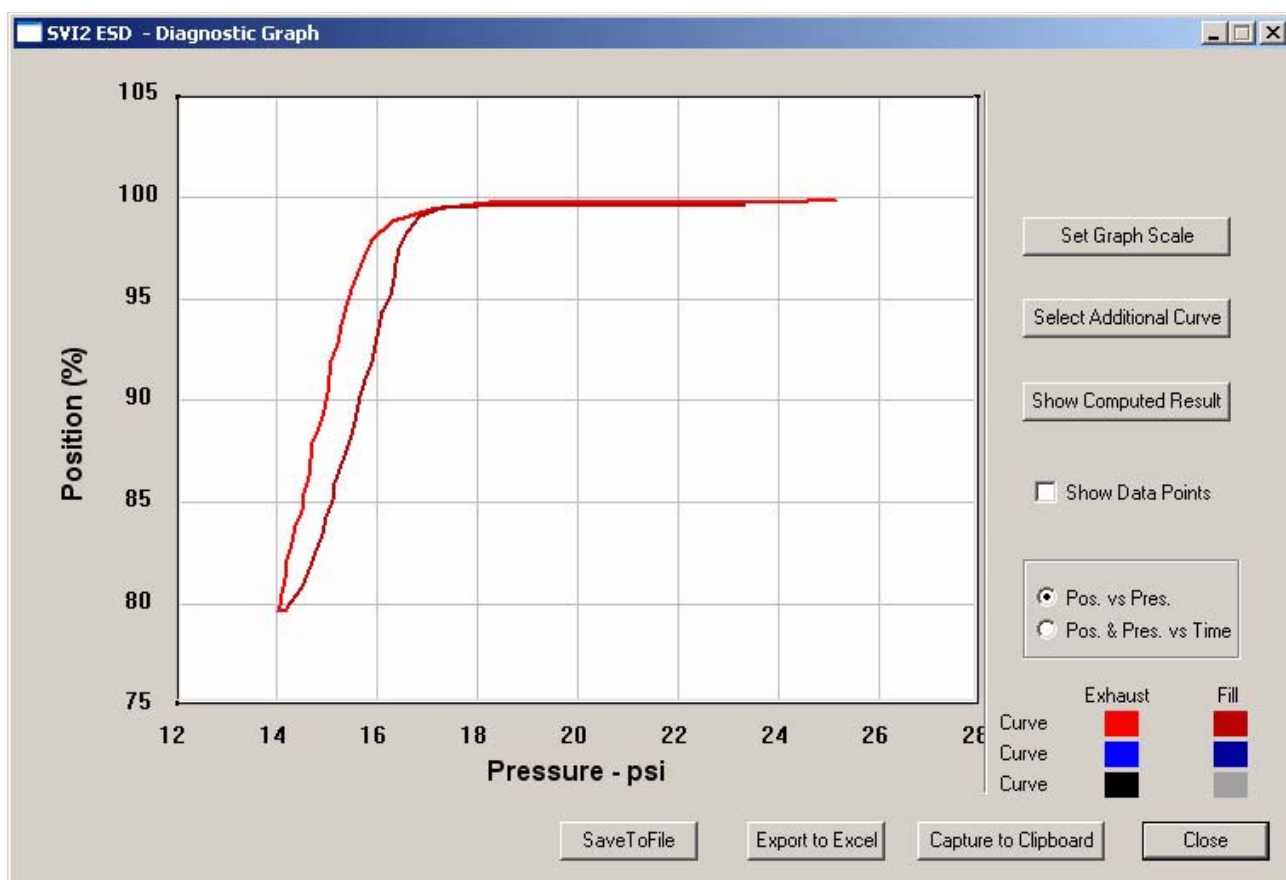

Figure 238 PST Diagnostic Graph
- ❖ Pos. vs Pres. - Position vs Pressure, the default view when the diagnostic graph is launched and is represented by the red curve, as shown in Figure 238 on page 218.